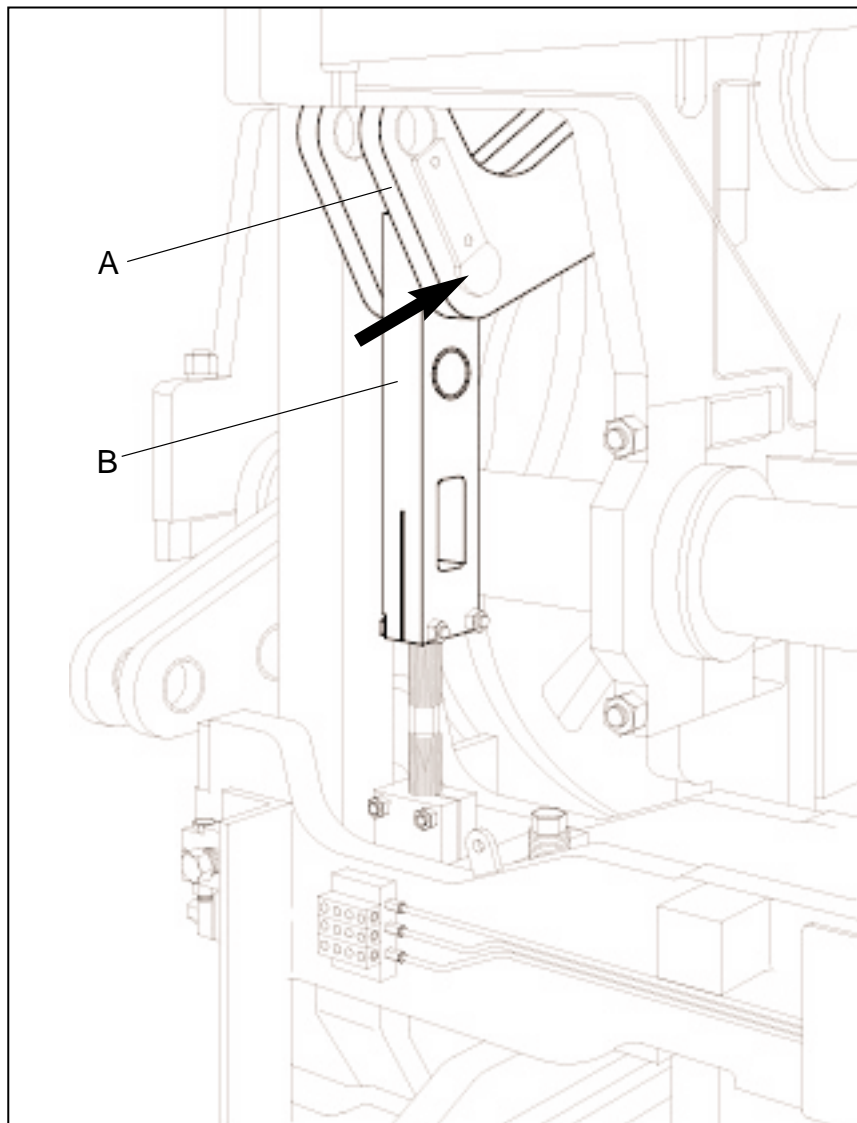

Figure 4.17 STRIPPER HEAD SHAFT AND LINKS.
- b. Stripper head shaft (A)- position pins in inside holes (short stroke) (see figure 4.17).
- c. Stripper head links (B)- position pins in top holes. Adjust links to obtain approximately **7 3/4" [197 mm]** (see figure 4.17) between link ends.